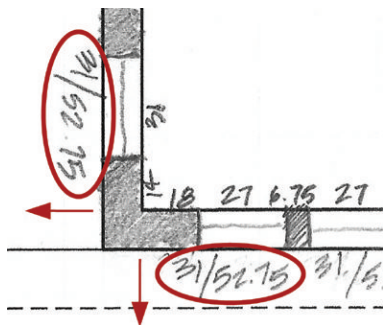

Figure 17.16 Sill heights and window heights should be oriented to be read from the outside of the plan.
- ☑ Record the sill heights and window heights on the outer perimeter of the plan, with the text oriented to be read from the outside of the page (Figure 17.16). Use the format: Sill height/Head height.